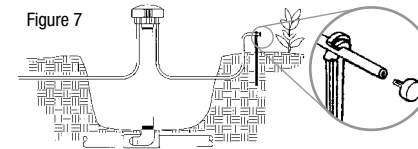

Figure 7
**NOTE:** Bug plugs may be used only with 1/8 in. micro tubing. (see Figure 7)